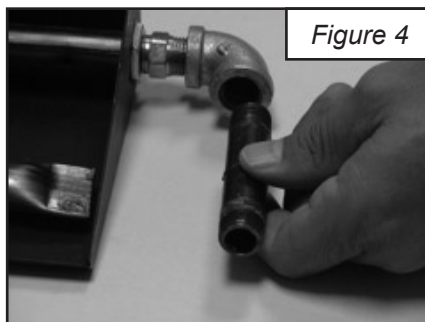

Figure 4
- D. Connect the 3" Pipe Nipple (Part #18) to elbow. (See Figure 4)